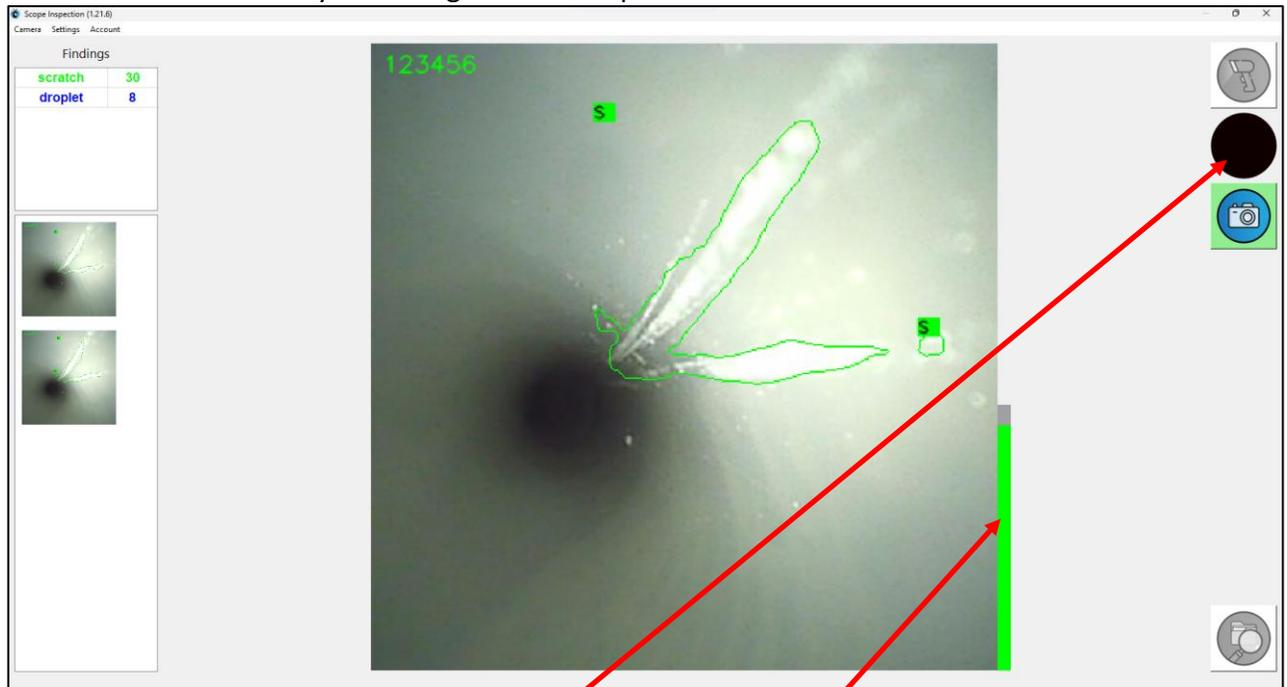
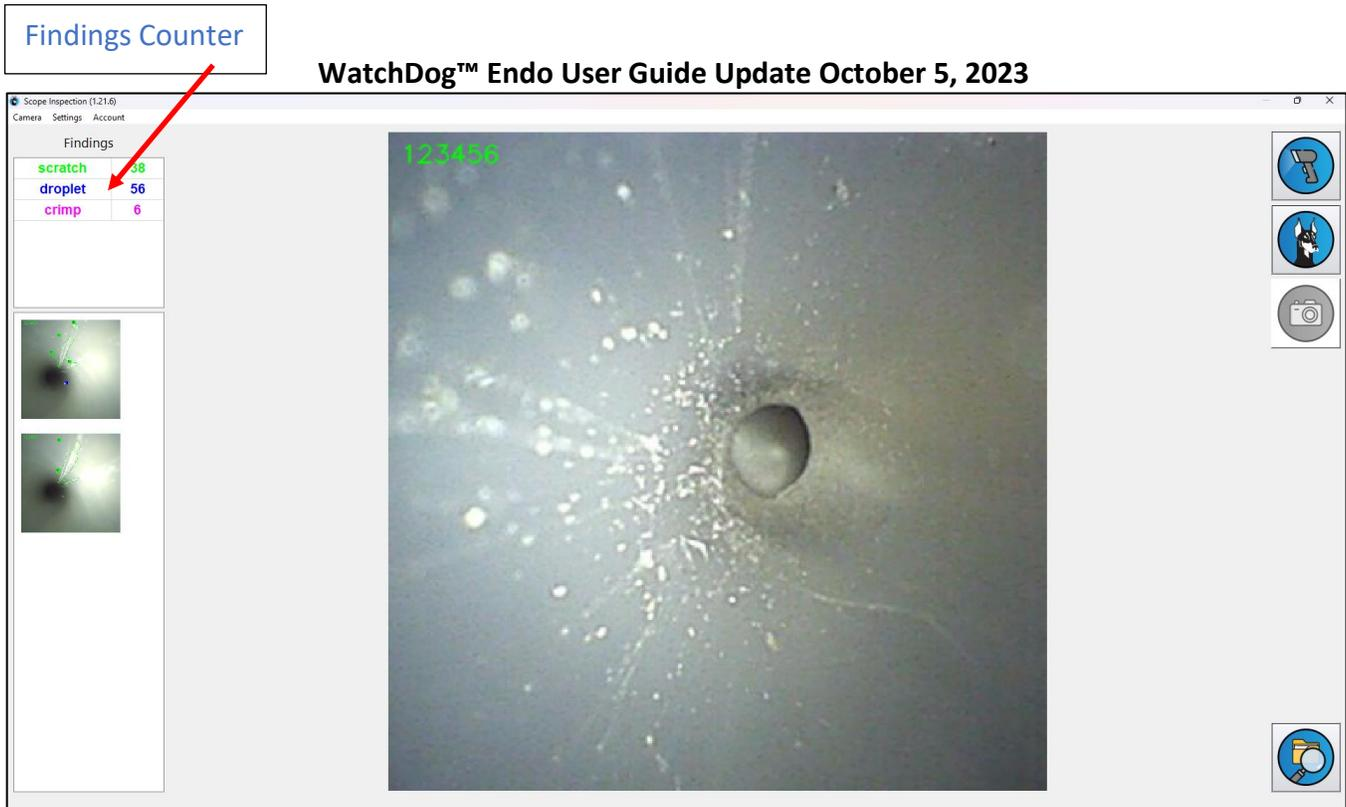

Figure 6
Figure 7
- iii. For WatchDog Platinum users - You will see color-coded outlines (polygons) of anomalies that WatchDog Endo detects. Scratches are shown in green, as in **Figure 6** below. Droplets are in blue. Peeling/shredding is in orange, and crimps are outlined in magenta, as seen in **Figure 7** below. (WatchDog Plus users will not see real-time polygons during inspection) In the upper left of the screen, you will see a tally of findings in their respective colors.